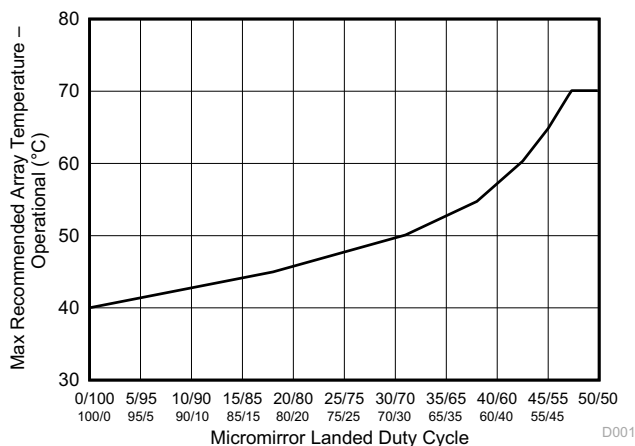

Figure 6-1. Max Recommended DMD Temperature—Derating Curve
- (12) Per Figure 6-1, the maximum operational case temperature should be derated based on the micromirror landed duty cycle that the DMD experiences in the end application. Refer to Section 7.7 for a definition of micromirror landed duty cycle.